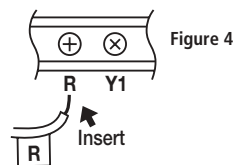

Figure 4
- Straighten bare end of each wire and cut or strip it to 1/4" maximum. Insert each labeled wire into the bottom of the matching terminal. Refer to figures 4 and 5.